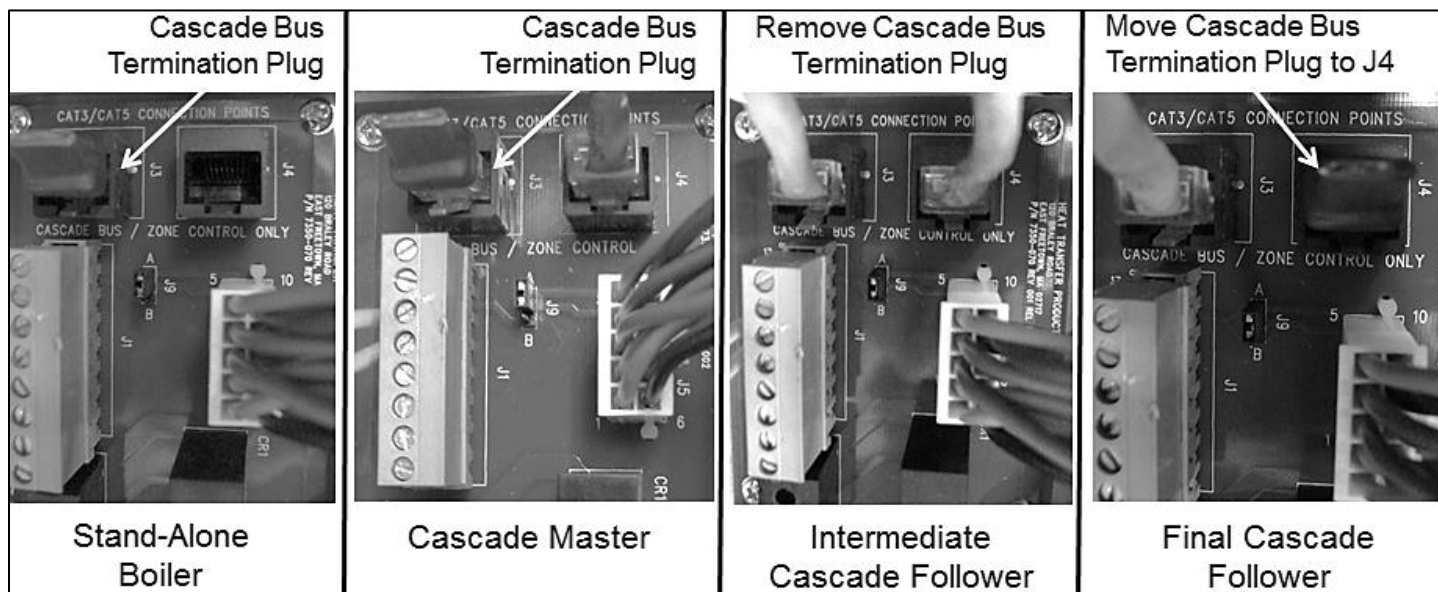

Figure 26 – Cascade Resistor Plug Installation Detail
1. A Cascade Bus Termination Plug has been installed on the customer connection board of this boiler. The purpose of this plug is to stabilize communication between multiple boilers and reduce electrical "noise". See Figures 26 and 27 for Cascade Bus Termination Plug installation detail.